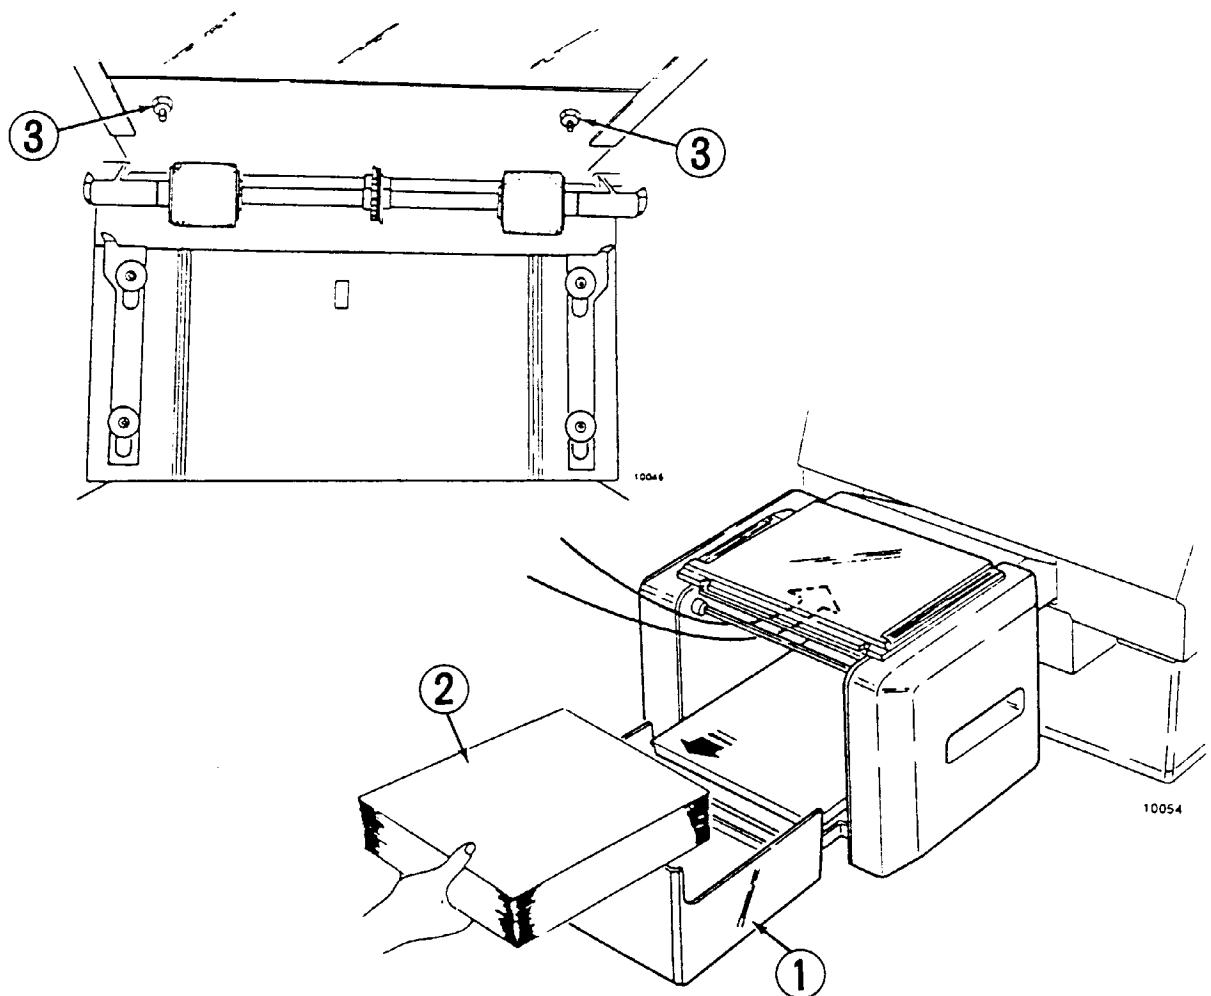

FIGURE 4-3. TOP COVER REMOVAL
1. Open paper cover (see Figure 4-3).